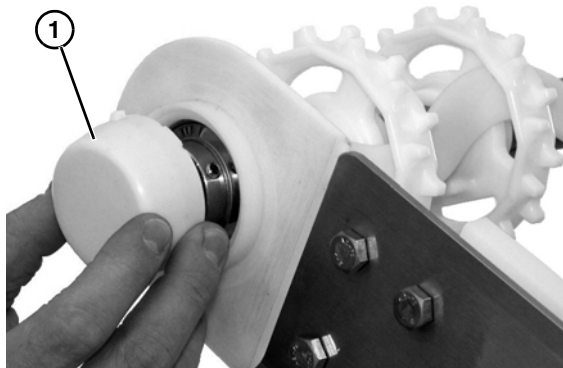

Figure 45
3. Remove bearing cover (Figure 45, item 1).